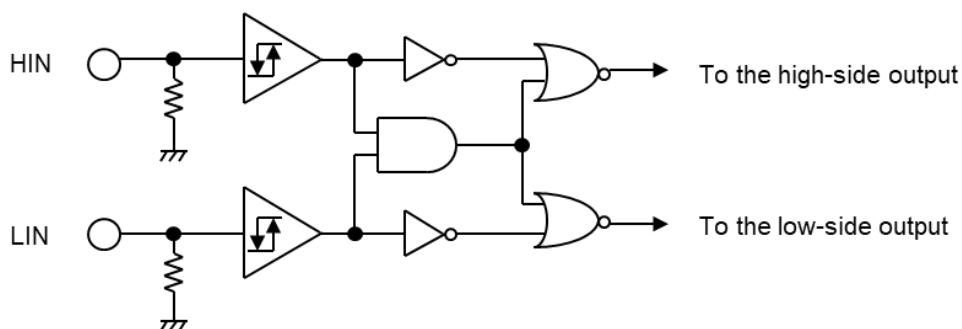

Fig.12 Interlock circuit (Output-Low type)
① Interlock for turning the high/low-side outputs to “low” in response to the input of simultaneous turn-on signals.
When HIN = LIN = “high” (ON), the logic circuit shown in Fig.12 turns the high-side and low-side outputs to “low” (OFF) thus preventing arm short of power semiconductors (IGBT/MOSFET).